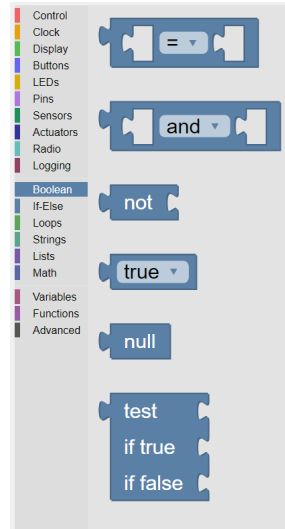

Fig. 2.22: The palette of **KookaBlockly Boolean** blocks
**Boolean** blocks are value blocks used to test whether a specified condition is True (1) or False (0). See Fig. 2.22.